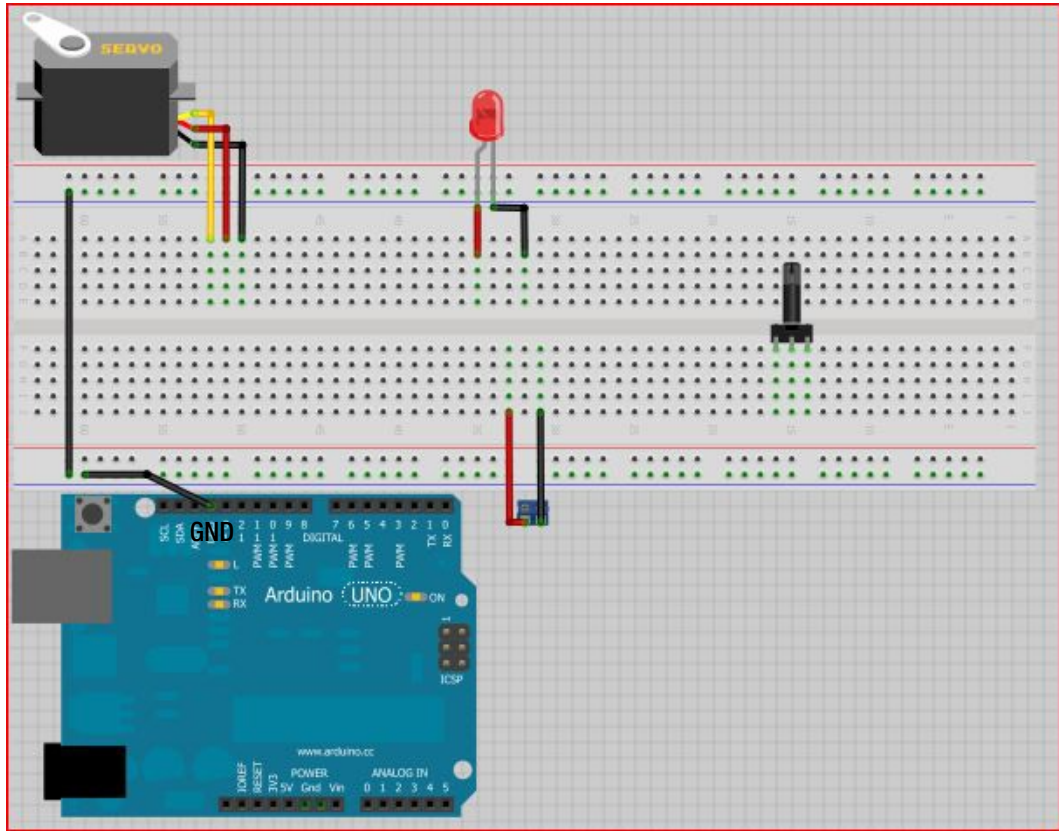

Figure 23-9. Connect the Arduino's ground to the ground strip on the solderless breadboard
8. Run a wire (we used black) from ground on the Arduino to the ground column on the breadboard. Notice in Figure 23-9 that this wire is connected on the row closest to the blue line. If your breadboard doesn't have the blue line, make certain this wire is on the same column as the jumper wire you ran from one side of the breadboard to the other (to connect the ground columns).